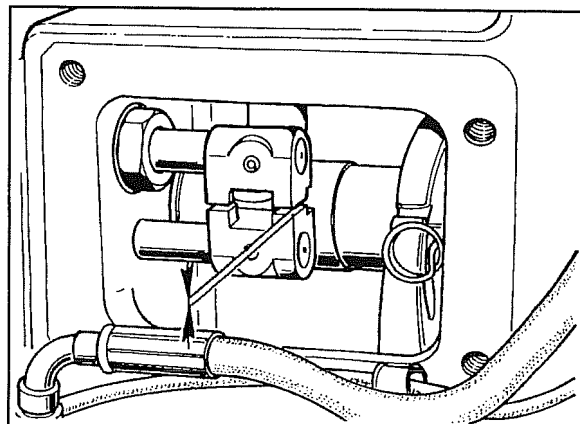

Fig. 6
- Before tightening them definitively, check sleeve parallelism as shown in Fig. 6.